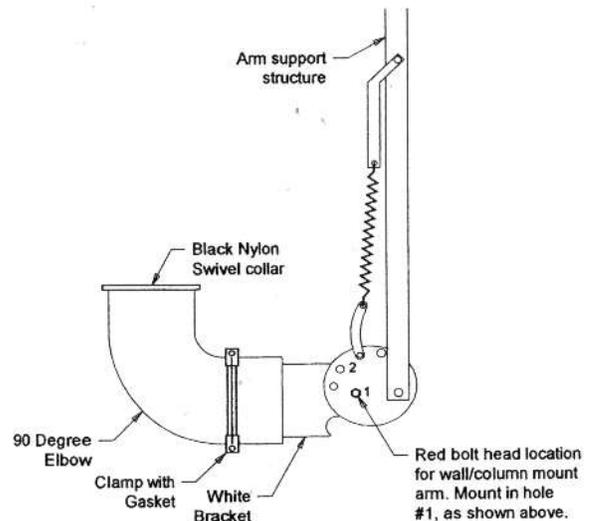

Figure 2
3. Slide the hose away from the white base bracket. Please note there is a bolt with a red painted head. This bolt is in a hole marked [2]. Remove this bolt and pivot the white bracket 90 degrees so the hole marked [1] will line up with the hole in the bracket. Replace the red bolt and nut and bring to a snug fit. (See figure 2.)
4. Attach the 90° elbow to the white arm bracket. Note the elbow and the white bracket have a small mating flange. There is a rubber gasket that seals the flanges of the elbow and the white bracket. Install the steel metal clamp over the rubber gasket and flanges. BE SURE THAT THE ELBOW AND ARM ARE IN A PERFECT VERTICAL POSITION BEFORE TIGHTENING THE CLAMP. The arm should be vertical and the elbow is also vertical. (See figure 2).
6. The arm will need final adjustment/tuning for easiest movement and to stay in place upon positioning. You will find friction pads and adjustment pivot joints in four (4) places, 1) Pivot point at the white bracket, 2) Pivot point in the center of the arm. 3 & 4) Pivot points at the hood location. Only put enough tension on these pivot joints to hold the arm in any position it is placed. The arm final adjustment is key to the arm being user friendly. DO NOT OVER TIGHTEN THE PIVOT JOINT FRICTION DISKS. Depending on arm usage and movement, occasional adjustments may be required. Based on the arms application, cleaning of the internal support structure may require scheduled cleaning.